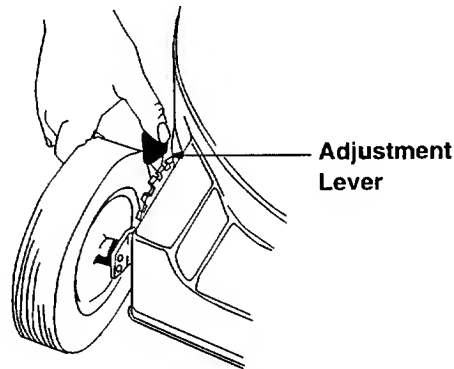

Figure 8
- Simply depress the lever towards wheel and move wheel and lever assembly to desired position. All wheels must be placed in the same relative position. See Figure 8.